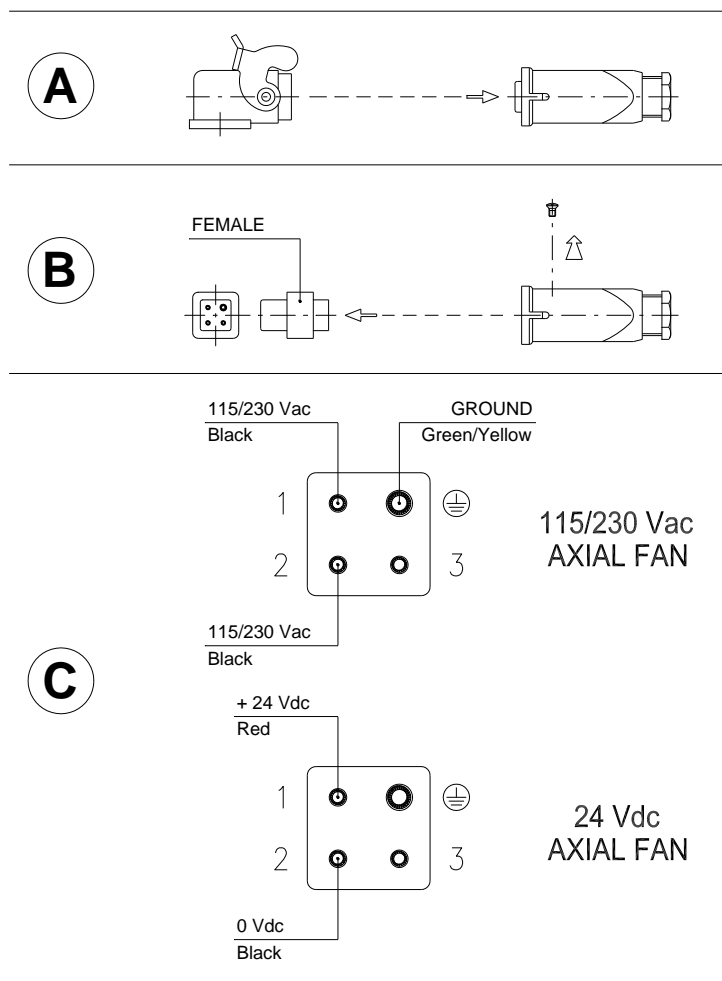

Figure 7 - Removal of connector (A-B) and electrical cable connection (C)
10. **Only for the version with ventilator cover:** Connect the electrical cables to the socket of the connector as shown in Figure 7.